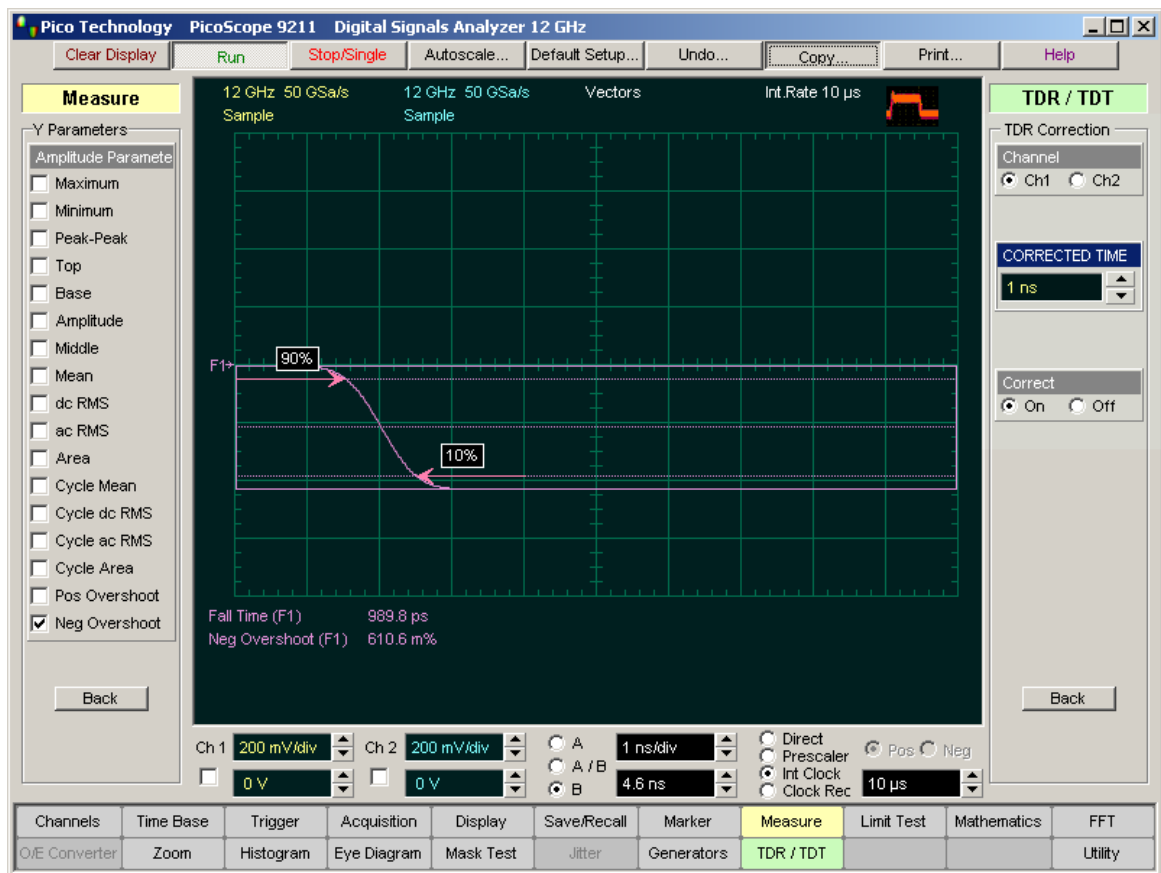

Figure 1
13. From the **X Parameters...** menu select **Fall Time**, and from the **Y Parameters...** menu select **Neg Overshoot**. See Figure 1.